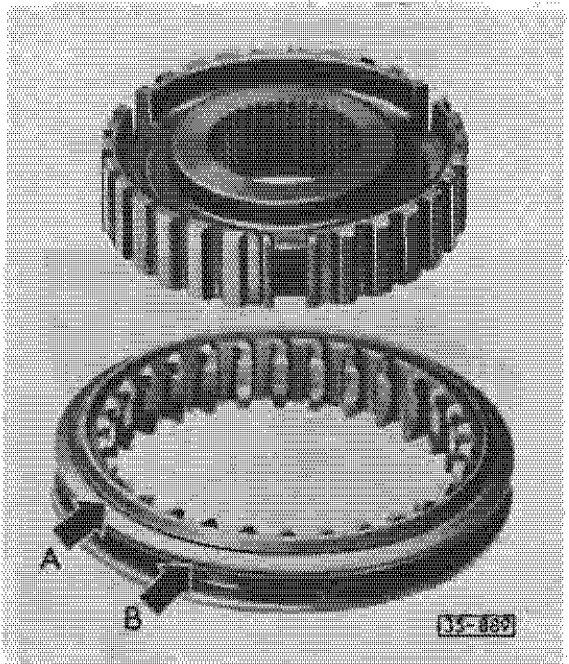

Fig. 10 Synchronizer 2nd/3rd gear, assembling
- turn synchronizer ring until grooves are in line with keys (installation position, see Fig. 10)